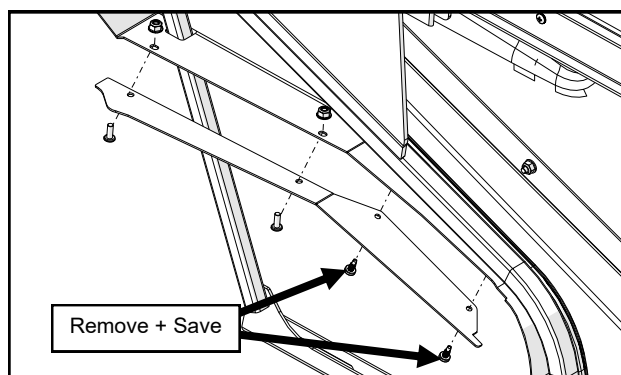

Fig. 2.2 (remove filler - Drive only)
**2.2** Per figure 2.2, remove the left sheet metal filler and mounting hardware. Set aside the lower (2) #10 Self Drill Screws and discard the remaining hardware and filler. Repeat on the right side.